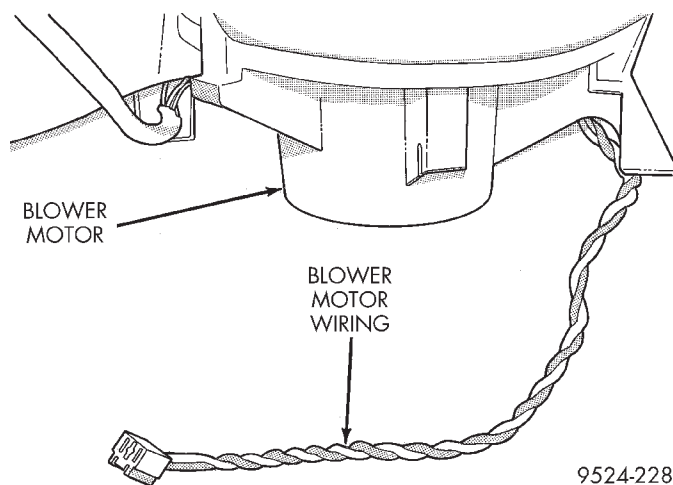

**Fig. 82 Blower Motor Wiring**
- (11) Front air inlet door and lever is serviced with recirculation housing.
- (12) Remove blower motor wiring at resistor (Fig. 82).